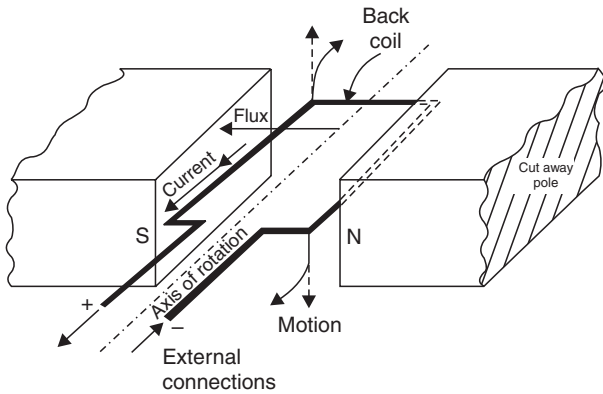

Fig. 1. Rotating a coil in a stationary magnetic field.
- 1. By *rotating a coil in a stationary magnetic field*, as shown in Fig. 1.